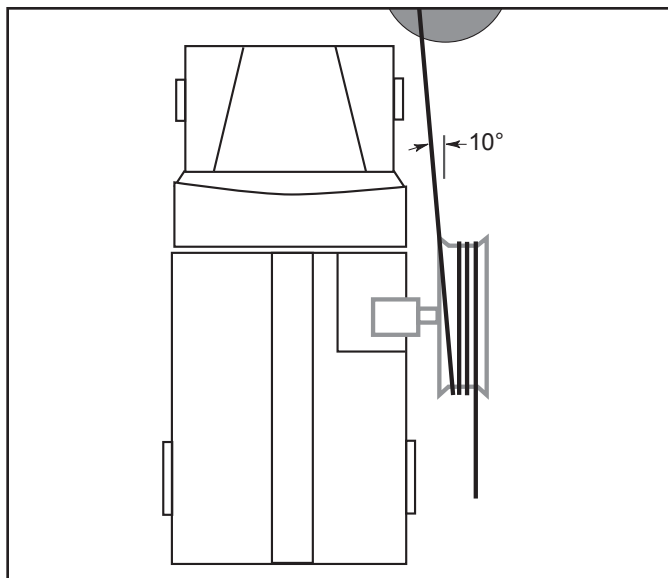

Figure 1. Capstan Positioning
2. Move the power source with drive shaft and capstan into its final position. The pull line will wrap best on the capstan if the capstan is angled about  $10^\circ$  away from the pull line (figure 1). This will allow the line to walk down the side of the capstan and push the previous wraps to the side.